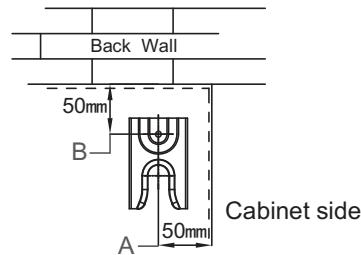

Figure 3
**Warning:** In order to prevent tipping of the cooker, the anti-tilt bracket must be installed with cooker. To install Anti-tilt bracket, use screwdriver to mount the anti-tilt bracket (1) with screws (2) to the ground, as shows in Figure 3.